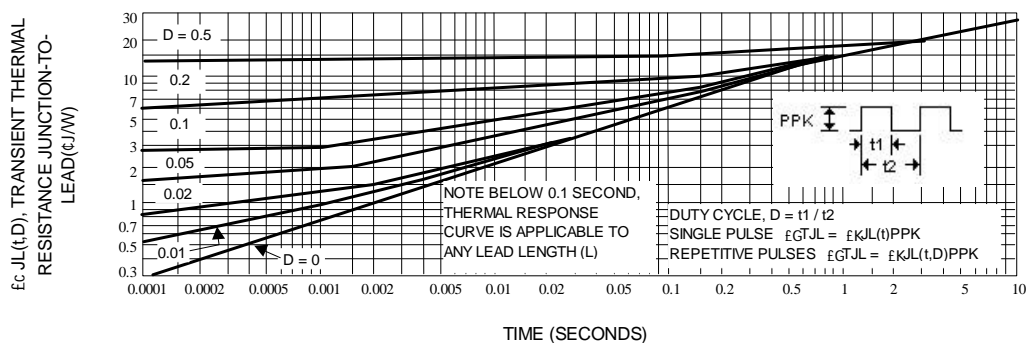
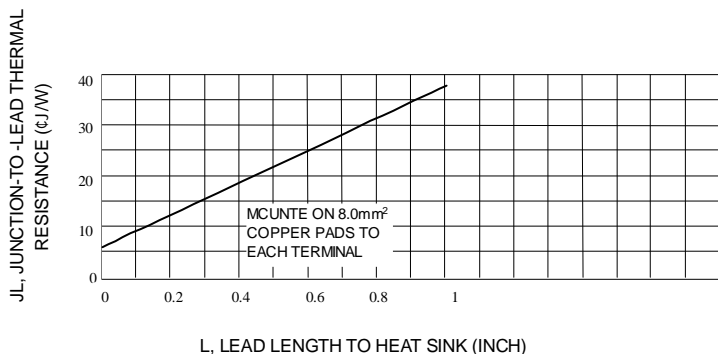
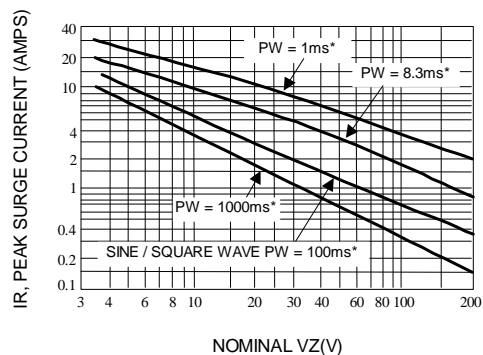
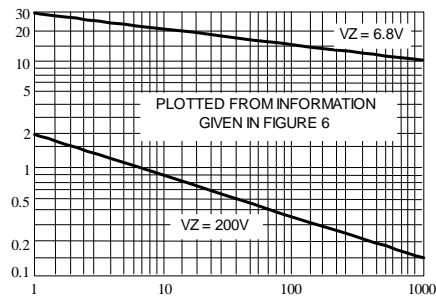

Fig. 3-TYPICAL THERMAL RESPONSE
Fig. 4-TYPICAL THERMAL RESISTANCE
Fig. 5-MAXIMUM NON-REPETITIVE SURGE CURRENT VERSUS NOMINAL ZENER VOLTAGE (SEE NOTE 3)
Fig. 6-PEAK SURGE CURRENT VERSUS PULSE WIDTH(SEE NOTE 3)
3. SURGE CURRENT (I_r) - Surge current is specified as the maximum allowable peak, non-recurrent square-wave current with a pulse width, PW, of 8.3 ms. The data given in Figure 5 may be used to find the maximum surge current for a square wave of any pulse width between 1 ms and 1000ms by plotting the applicable points on logarithmic paper. Examples of this, using the 6.8v and 200V zeners, are shown in Figure 6. Mounting contact located as specified in Note 3. ($T_A=25 \text{ }^{\circ}\text{C} \pm 1^{\circ}\text{C}$).
ΔT_{JL} is the increase in junction temperature above the lead temperature and may be found from Figure 3 for a train of power pulses or from Figure 4 for dc power.
Data of Figure 3 should not be used to compute surge capability. Surge limitations are given in Figure 5. They are lower than would be expected by considering only junction temperature, as current crowding effects cause temperatures to be extremely high in small spots resulting in device degradation should the limits of Figure 5 be exceeded.
*** Data of Figure 3 should not be used to compute surge capability. Surge limitations are given in Figure 5. They are lower than would be expected by considering only junction temperature, as current crowding effects cause temperatures to be extremely high in small spots resulting in device degradation should the limits of Figure. 5 be exceeded